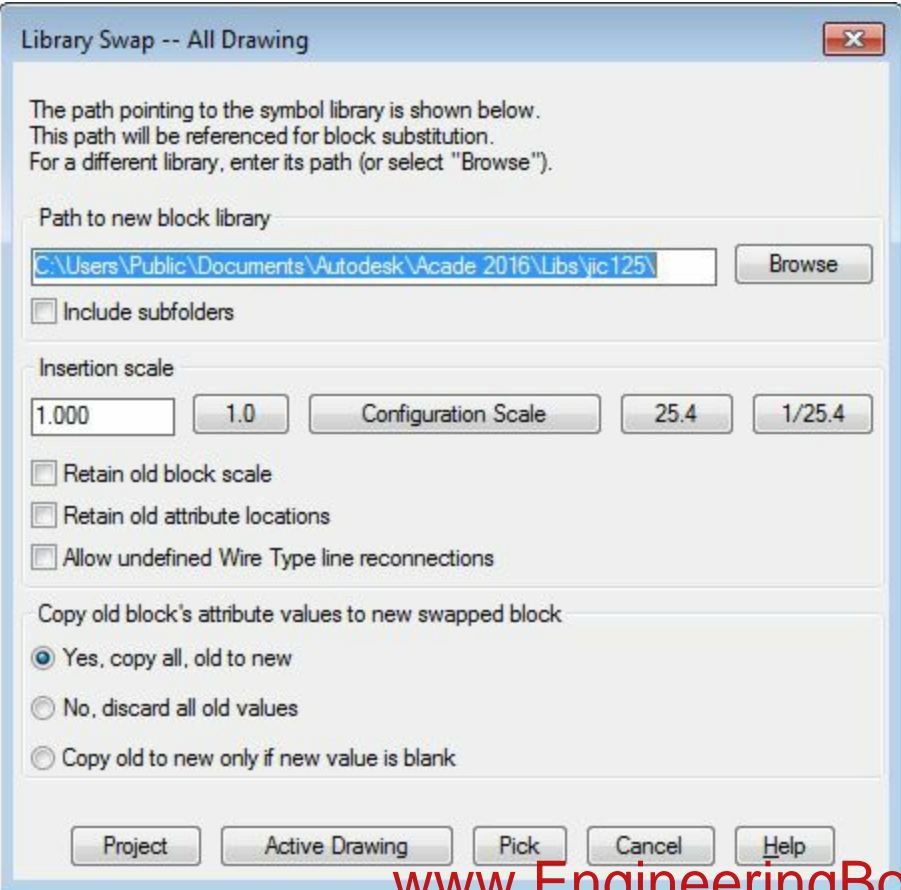

Figure-40. Library Swap dialog box
- If you have selected Library Swap radio button in the **Swap Block/Update Block/Library Swap** dialog box then the Library Swap dialog box will be displayed; refer to Figure-40. Click on the **Browse** button and select the directory of component blocks. Click on the **Project** button if you want to update the block for all project drawings or click on the **Active Drawing** button to update the block in current drawing only.